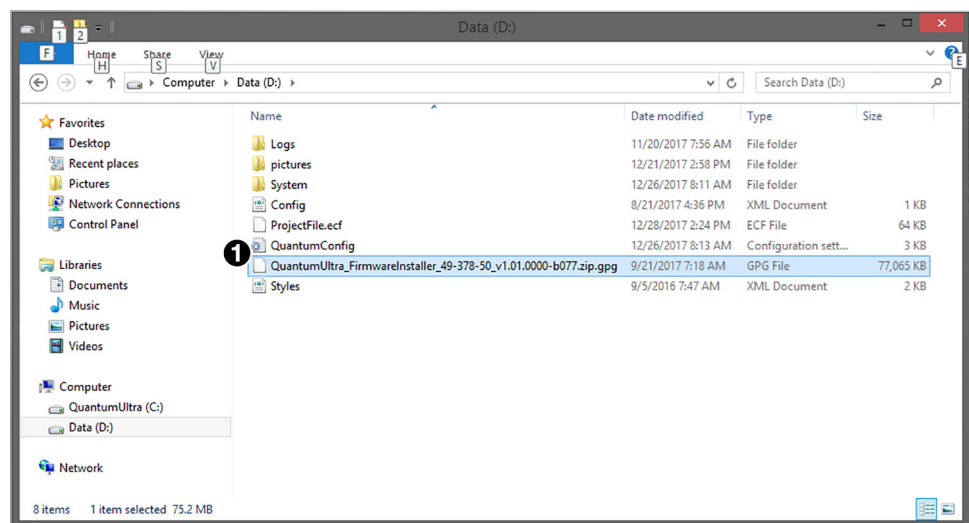

Figure 56. Selecting the Firmware File on the D: Drive
8. Double-click on the firmware file or select it and click the **Open** button at the bottom of the screen. The Quantum Ultra firmware file must have a .gpg extension (see figure 56, ❶).